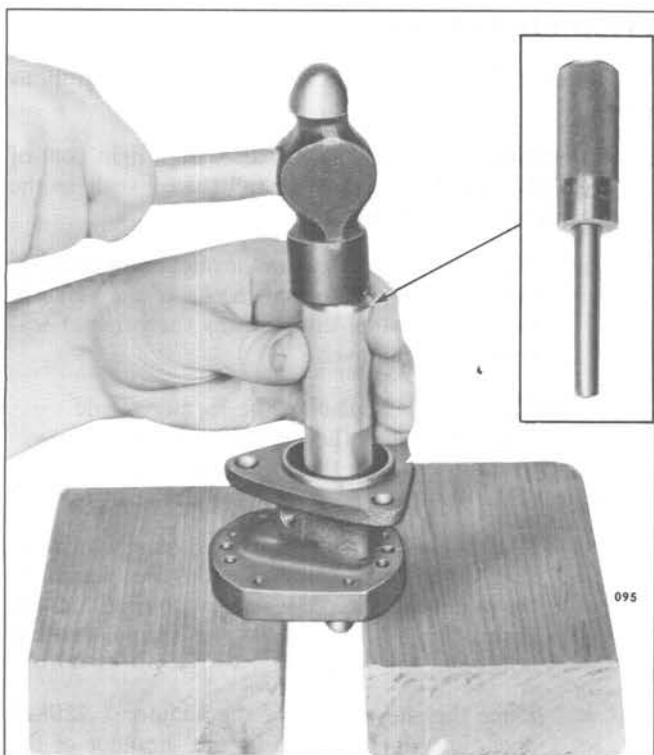

Fig. 8 - Installing Inner Oil Seal using Tool J 1508-8
- b. With the pump body supported on wood blocks (Fig. 8), insert the pilot of the installer handle in the pump body so the seal starts straight into the pump flange. Then drive the seal in until it bottoms.